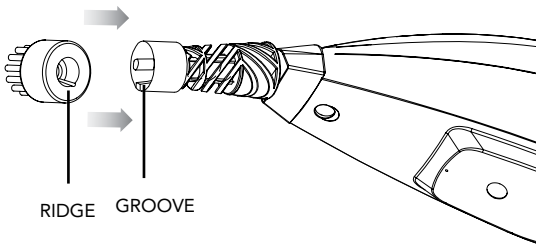

**FIGURE 4**
1. Align Jet Nozzle with Steam Nozzle as shown (FIGURE 4).